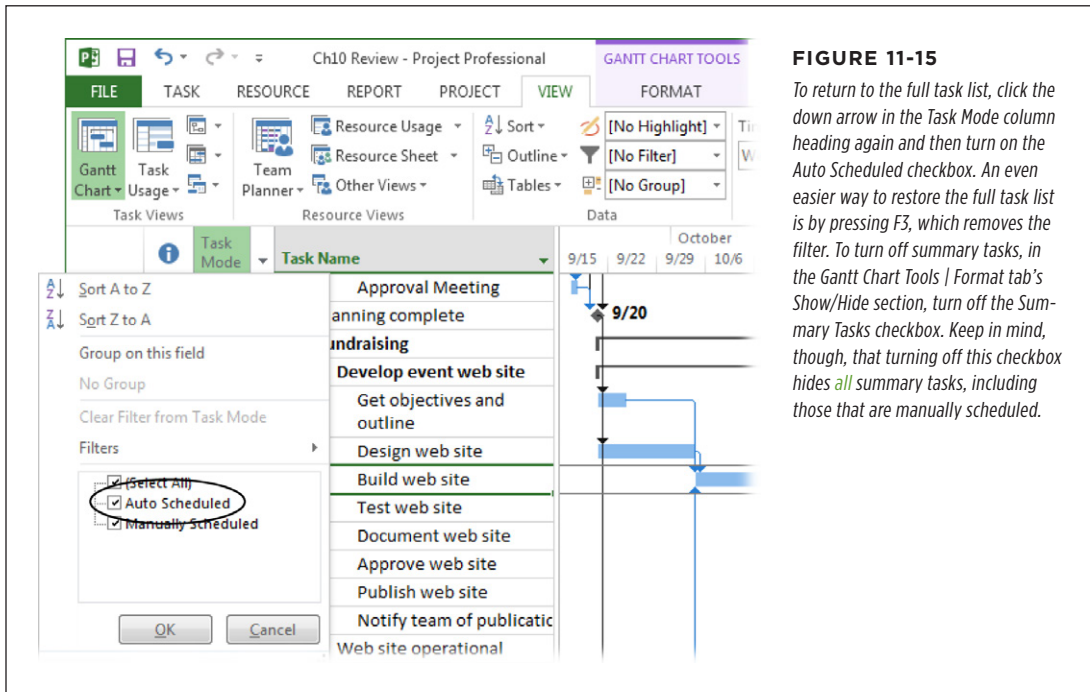

FIGURE 11-15
2. To filter your task list to show only manually scheduled tasks, click the down arrow in the Task Mode column heading, as shown in Figure 11-15; turn off the Auto Scheduled checkbox; and then click OK.